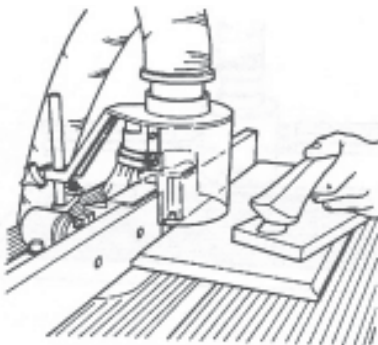

Figure D-61
14. Position the workpiece on the proper side of the worktable, as shown in Figure D-61.